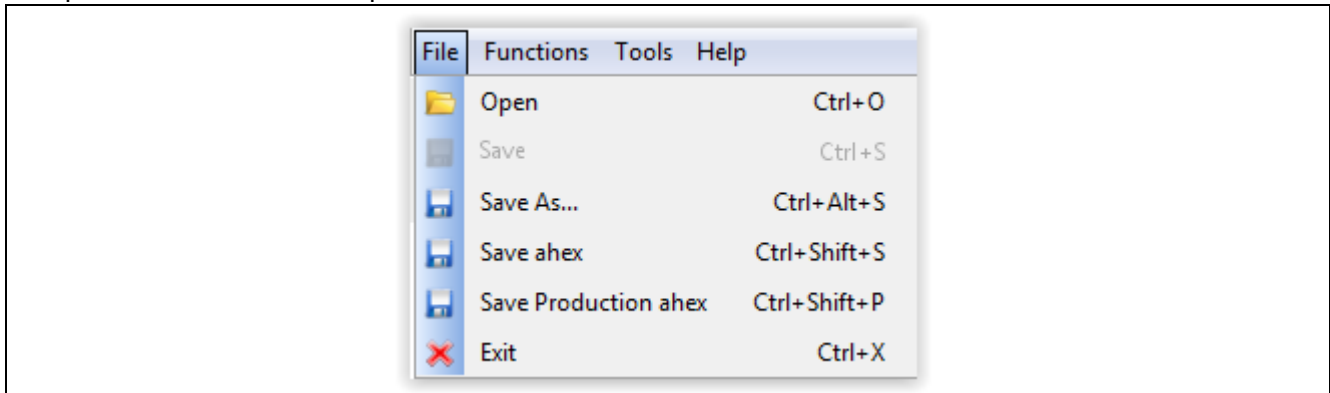

Figure 25 .dp Vision File Menu
3. The File menu (see Figure 25) allows the user to open (**Open**) a configuration file, and save edited configurations with the same name (**Save**) or with a different name (**Save As...**) where the parameter values have been edited. The File menu also allows saving of the ahex file (**Save ahex** and **Save**